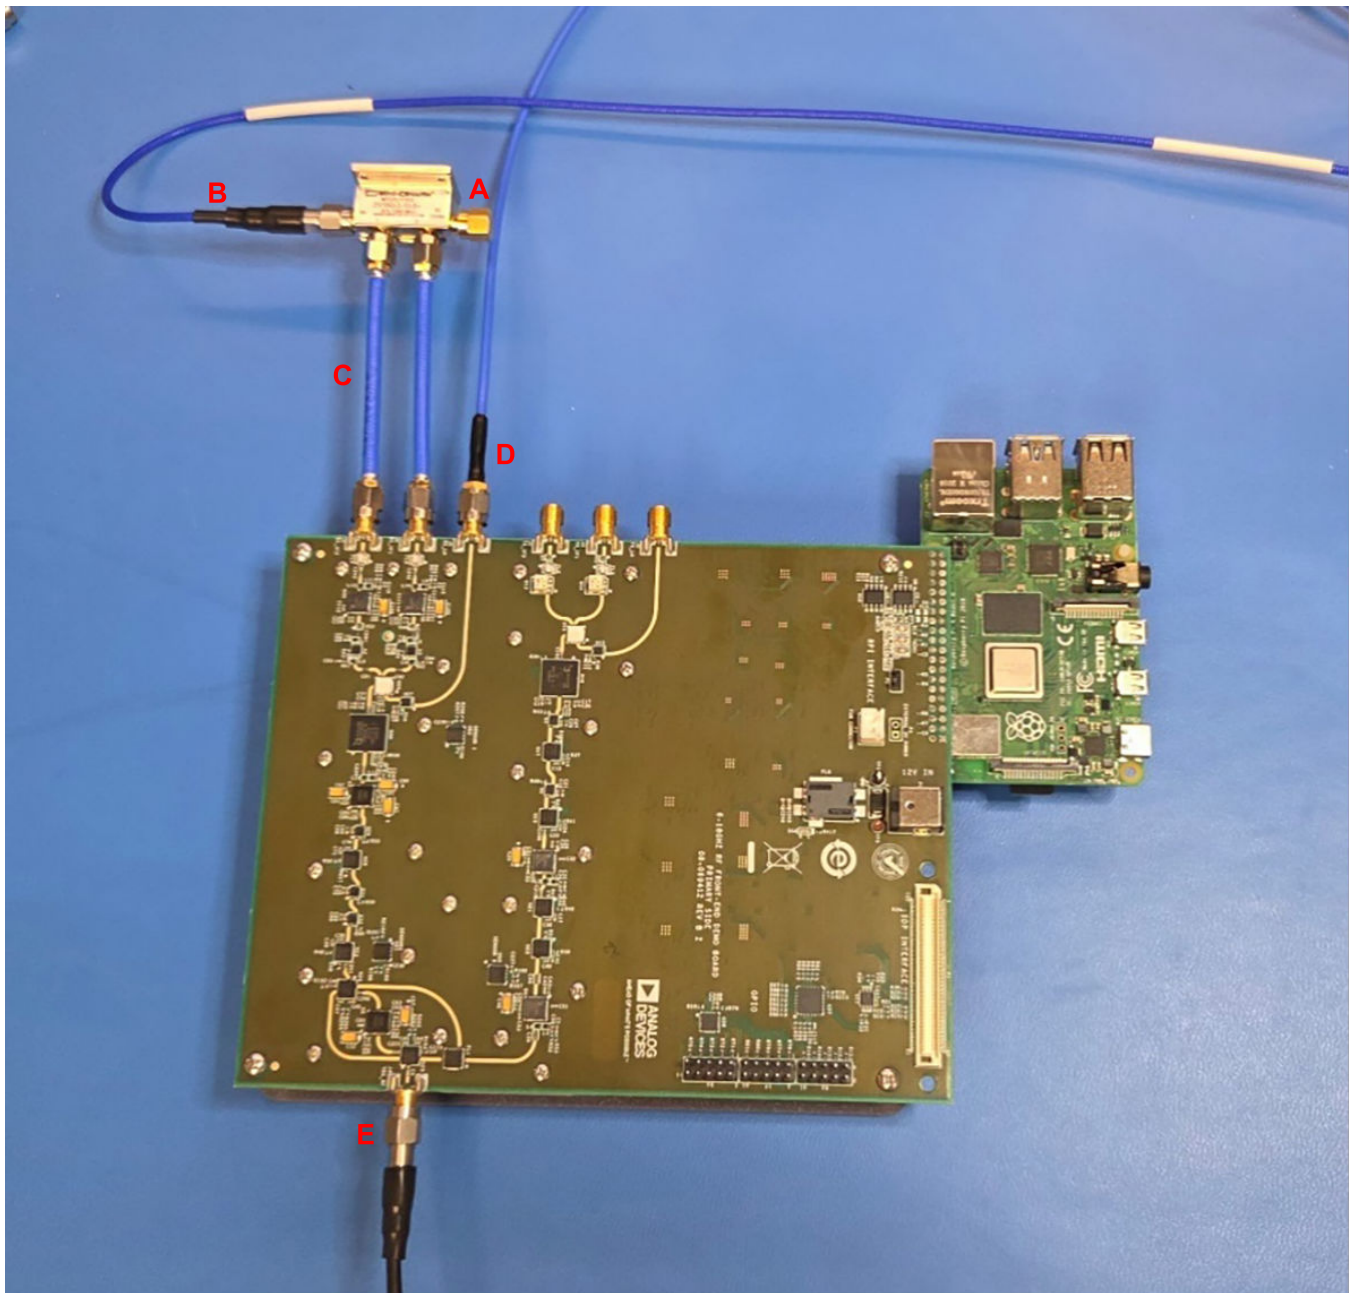

Figure 18. Connecting the Second Signal Generator to RX RF Input Port
Connect the RX I/Q IF inputs as follows (see Figure 18):
3. Connect Port 1 and Port 2 on the Mini-Circuits splitter to RX I/Q IF ports (as shown in Figure 18 **Label C**) using the two short SMA cables. This configuration is for upper sideband operation.